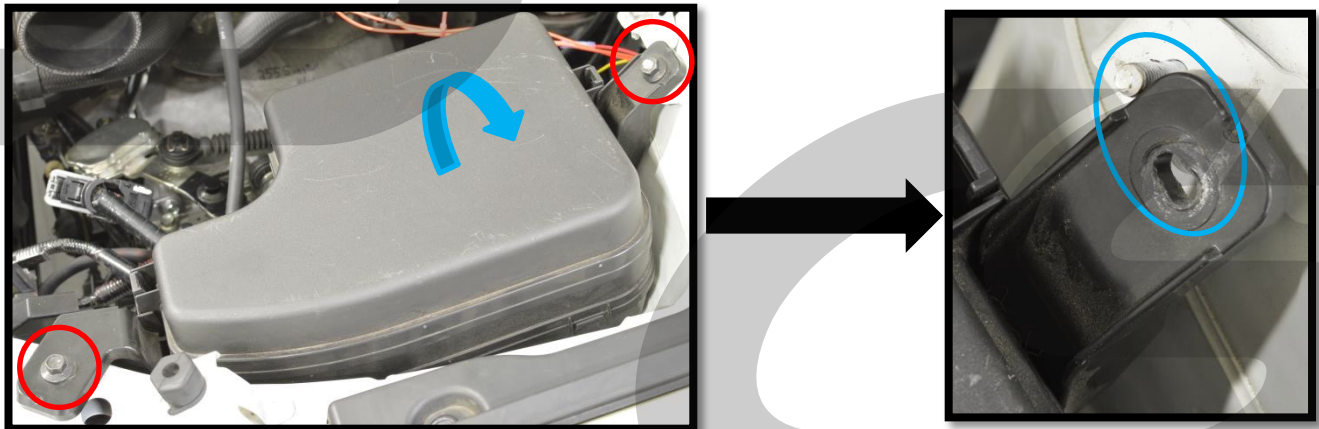

Figure 3c
- e) Remove one 12mm nut and one 12mm bolt that attach the fuse box to the vehicle. Circled in red in Figure 3c.
- f) Pull up and outward to move the fuse box and gain access to all OEM TMM bolts. Pull in direction of blue arrow in Figure 3c. Fuse box should move off of stud like shown with blue circle in Figure 3c.